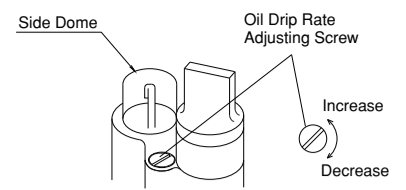

Fig.17
### ③ Adjusting the Oil Drip Rate (Fig.17)